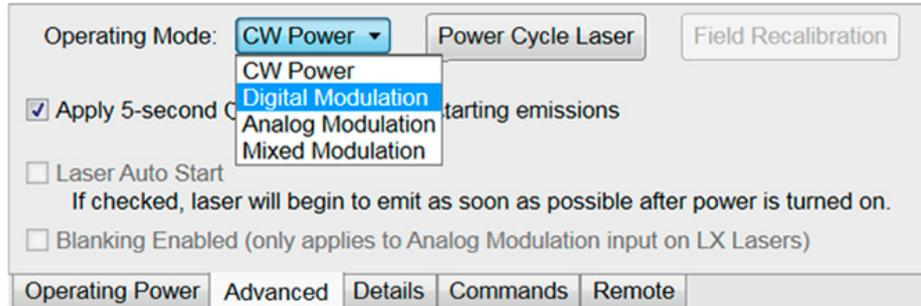

Figure 5-9. Operating Mode-Select Digital Modulation
5. On the Advanced tab for the selected laser, click the drop-down menu for Operating Mode and select **Digital Modulation**, as shown in Figure 5-9: